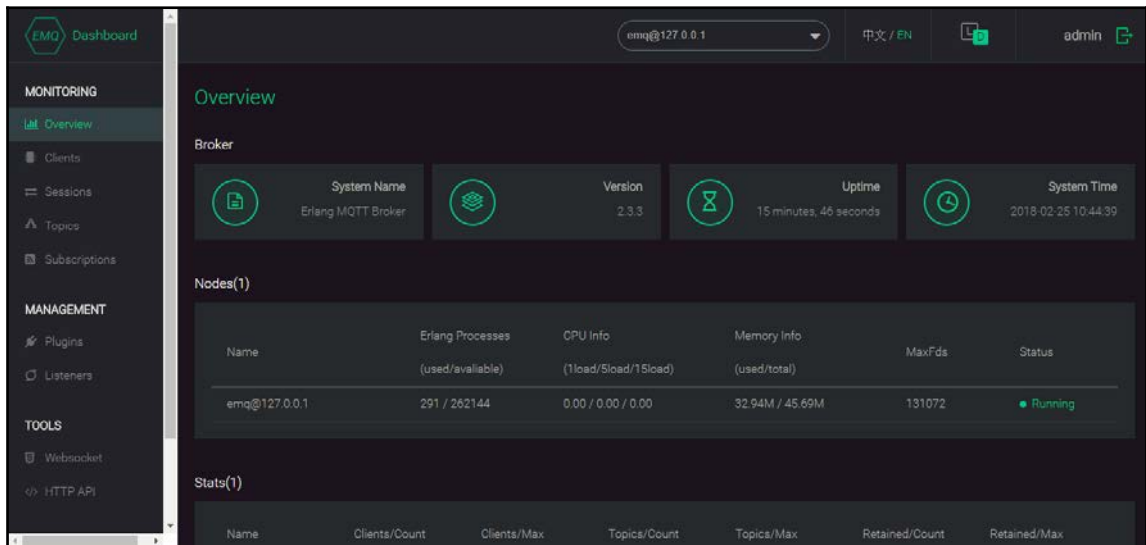

Figure 3.11
8. Using **Dashboard**, we can keep track of broker status, clients, topics, sessions, subscriptions, and monitor the statistics and metrics of the broker as shown in *Figure 3.11*: